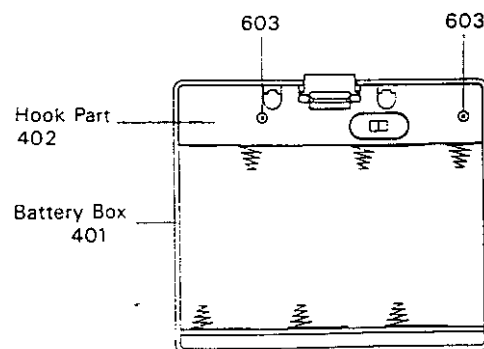

Fig. 6
1. Remove the two screws(603)fixing the Hook Part(402). Fig. 6
2. Hold the Hook Part(402)and pull out the Battery Box case(401)in the vertical direction. Fig. 6